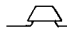

Fig. 4 – Emergency Heat Wiring Connection Diagram, 50RQ,PQ006
6. Using field supplied wire, connect the control box to the conditioned space and base unit. For 50RQ,PQ006 units, wire in accordance with Fig. 4, for 50RQ,PQ008/010 units, wire in accordance with Fig. 5. Enclose wiring in field-supplied conduit as required. Conduit to be "Sealtite" or equal. There are 2 conduit connection holes in bottom of control box.